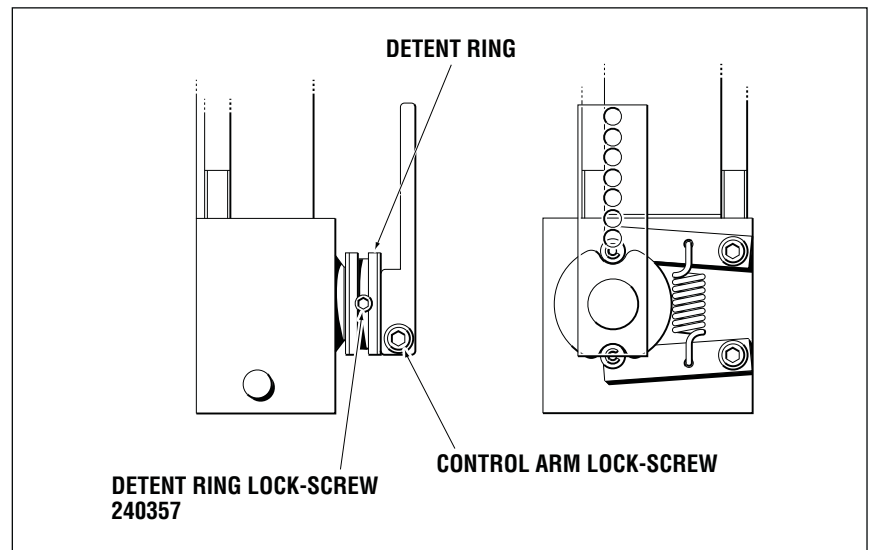

Figure 8. Detent Ring Location.
- 4** Loosen the set screw in the detent ring on the clutch slave and rotate the detent ring to the full detent position. To locate the detent ring, see Figure 8.